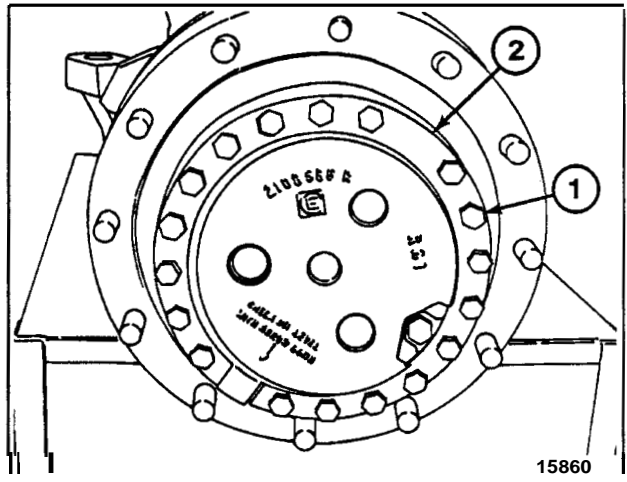

Figure 73
34. Coat mating surface of hub and stud assembly and planetary carrier (2, Figure 73) with Loctite #515.